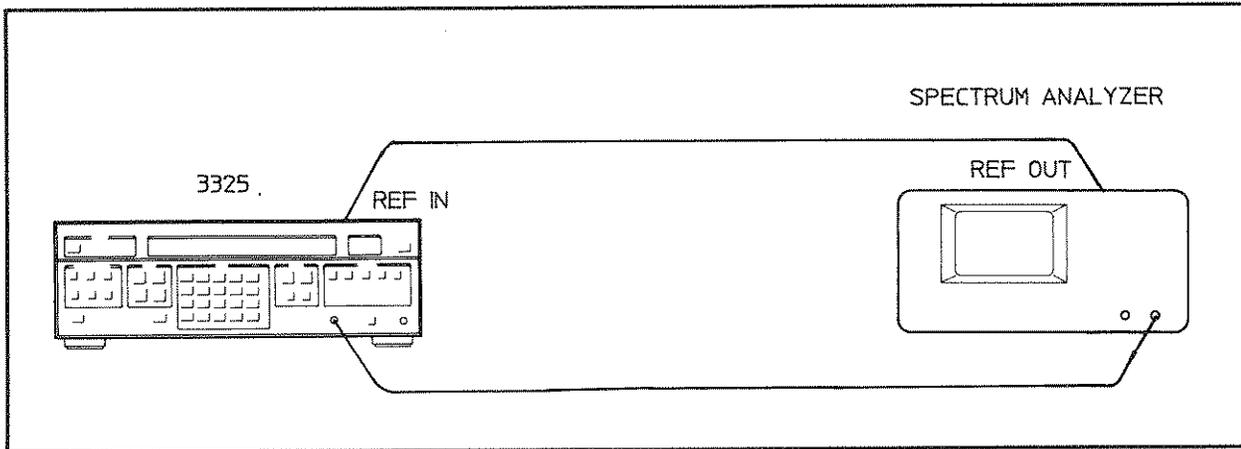

Figure 4-7. Mixer Spurious.
- a. Connect the HP 3325B signal output to the spectrum analyzer 50Ω (RF) input and the HP 3325B EXT REF input to the analyzer 10 MHz reference output (see figure 4-7).